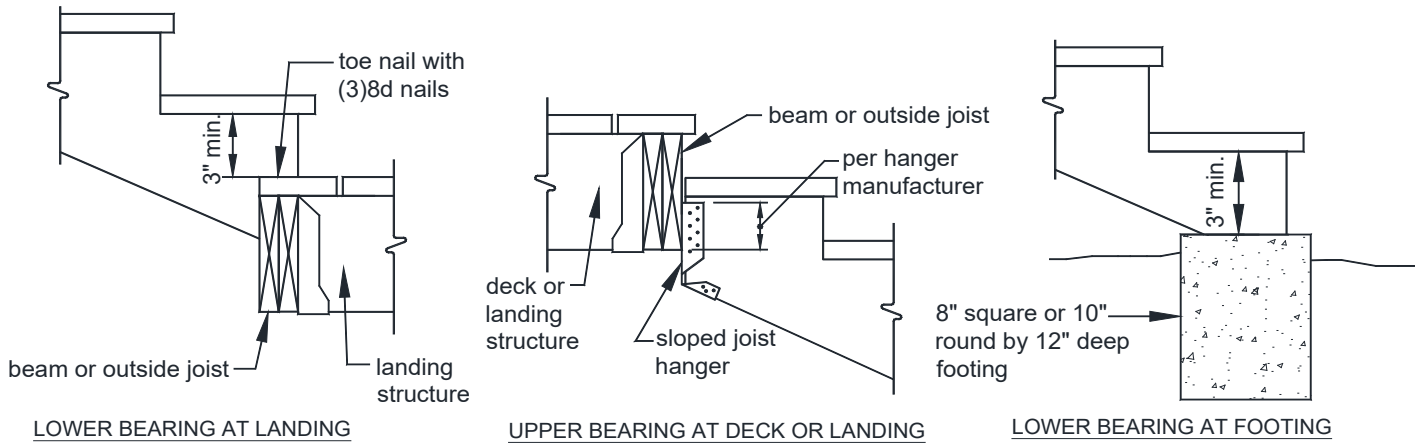

FIGURE 37: STRINGER BEARING
- Stringers shall bear on footings and attach to the deck or landing per FIGURE 37.